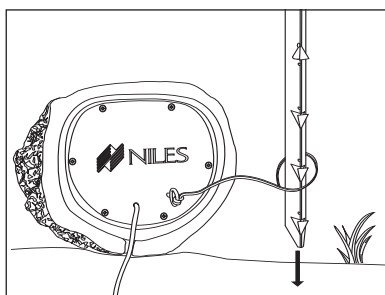

Figure 12 Security Stake Attachment to Cable
- Feed the Security Stake through the loops at the end of the security cable and insure that they are inserted into the cable holder provided at the top of the stake, as shown in **Figure 12**.